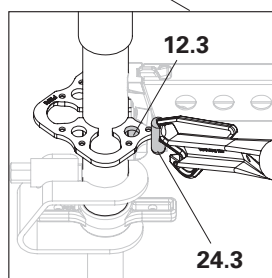

Fig. A4.11a
- Fit the shoring brace at an angle of approx. 45° with the lower diagonal head (**24.1**) onto the lower rosette. (Fig. A4.11a + A4.11c)